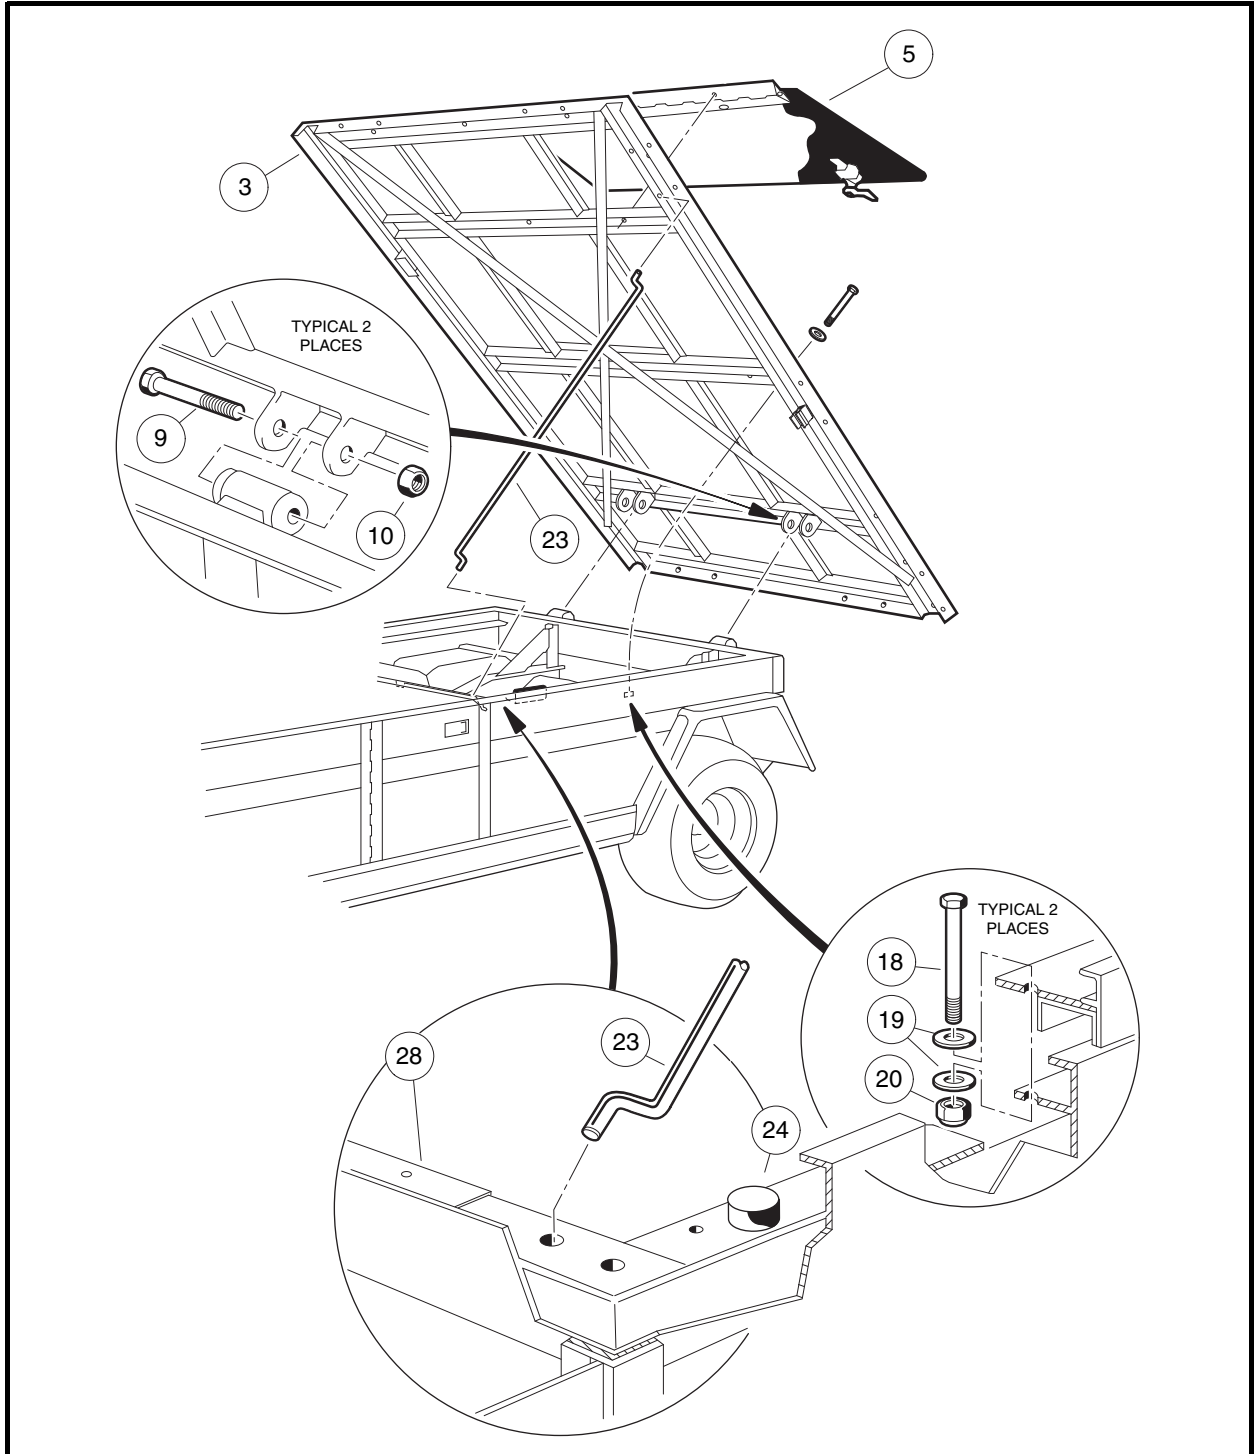

Figure 4-3 Flat Bed – Turf 6 and Carryall 6 (with Side Doors)
1. Open access door in bed (5) and remove two lock nuts (20), four flat washers (19), and two 1/4 x 4 bolts (18). Close and latch access door (**Figure 4-3, Page 4-8**).
2. Remove two lock nuts (10) from left and right flat bed hinge assemblies.
3. Remove two 3/8 x 3 -3/8 bolts (9). Lift bed from vehicle.
1. Place bed on vehicle with bed front edge 1 inch (2.5 cm) from seat back support panel (28) and open access door (5) (**Figure 4-3, Page 4-8**).
2. Raise rear edge of bed 6 inches from vehicle frame and position bed so the left and right hand bed supports are resting on the support bumpers (24).
4. Start the bolts (9) into left and right hinge assemblies. It may be necessary to use an alignment tool to align holes in hinge bracket with steel bushing in hinge assembly.
5. Install a nylon lock nut (10) on each bolt and tighten to 14 ft-lb (18.9 N·m).
6. Install 1/4 x 4 bolts (18), flat washers (19), and lock nuts (20) through the bed frame and vehicle frame on both sides of vehicle. Tighten to 75 in-lb (8 N·m) (**Figure 4-3, Page 4-8**).